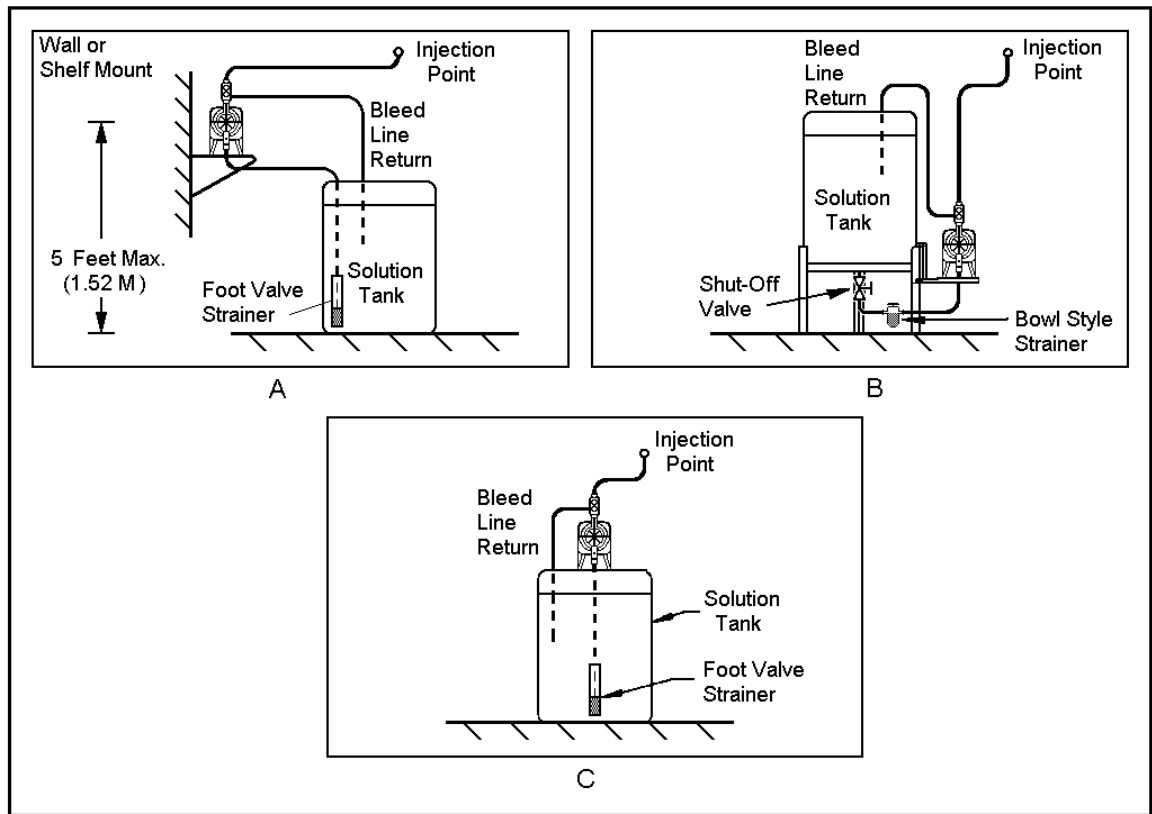
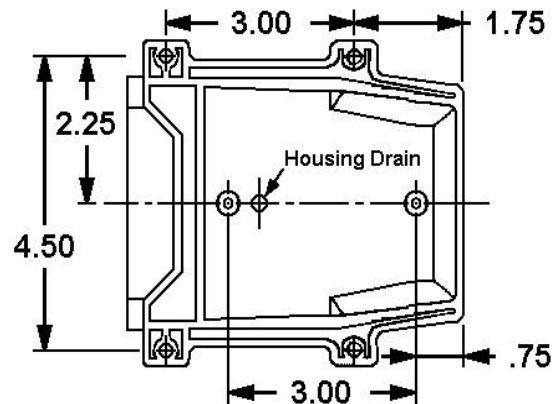

Figure 2
Figure 3
- Text that has been formatted ***bold*** and ***italicized*** (e.g., ***Figure 2-C***) indicates reference text.
Typical mounting arrangements are shown in *Figures 2-A, 2-B, & 2-C*.
1. For wall or shelf mounting refer to *Figure 2-A*. Connect suction tubing to the suction valve of the chemical pump. (The suction valve is the lower valve.) The tubing should be long enough that the foot valve/ strainer assembly hangs about 2-3 inches above the bottom of the chemical (solution) tank. To keep the chemical from being contaminated, the tank should have a cover.
2. Flooded suction mounting (installing the pump at the base of the solution storage tank, *Figure 2-B*) is the most trouble free type of installation and is recommended for very low output requirements. Since the suction tubing is filled with chemical, priming is accomplished quickly and the chance of losing the prime is reduced.
To mount the pump, drill 4 holes of 1/4" diameter in the shelf as shown in the dimension drawing (*Figure 3*). Attach the pump securely using four #10 bolts, nuts and lock washers.
3. The pump can be mounted to a wall as shown in *Figure 2-A*. A wall mount bracket kit is available which includes all necessary hardware to mount the pump to the bracket and the bracket to the wall. Mounting dimensions for the pump are provided in *Figure 3*.
4. The pump can be mounted on top of a solution tank as shown in *Figure 2-C*. Install the chemical pump on the cover. Insert suction tubing through the center hole and cut the tubing so that the foot valve/strainer hangs about 2-3 inches above the bottom of the tank. Mount the chemical pump rigidly by drilling four 1/4" holes and using four #10 bolts, nuts and lock washers.
6. To prevent clogging or check valve malfunction, always install a strainer assembly to the end of the suction tubing. (*Figure 2-C*). This foot valve/strainer assembly should always be installed 2 to 3 inches above the bottom of the chemical tank. This will help prevent clogging the strainer with any solids that may settle on the tank bottom. The chemical tank and foot valve/strainer should be cleaned regularly, to ensure continuous trouble operation. If the chemical being pumped regularly precipitates out of solution or does not dissolve easily or completely (e.g. calcium hydroxide), a mixer should be used in the chemical tank. These are available in many motor configurations and mountings. To obtain a mixer, contact your supplier.